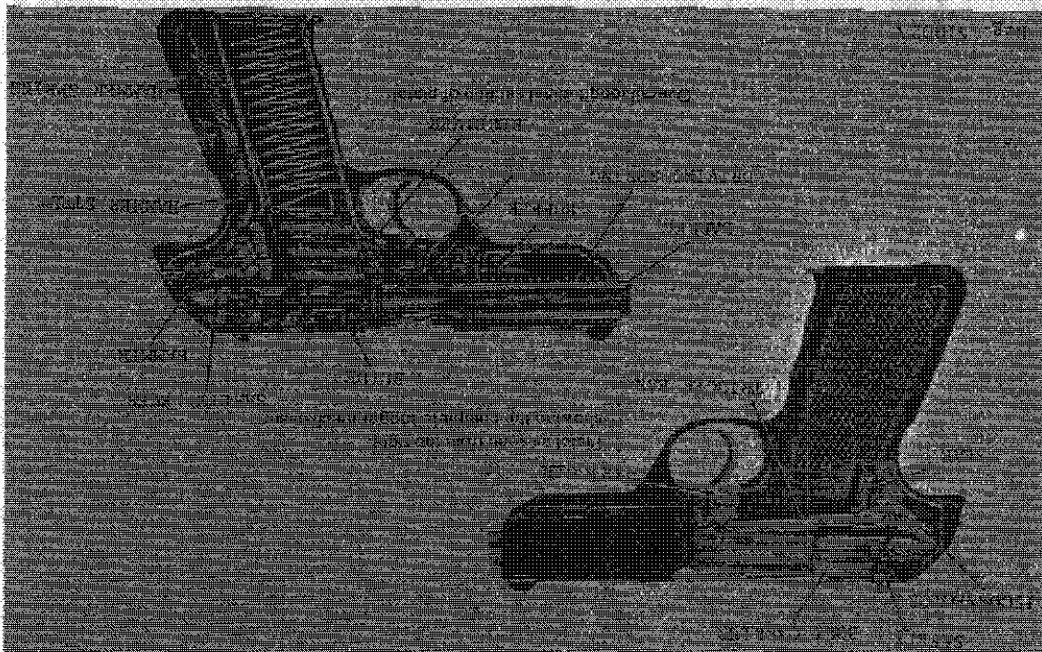

Figure 24. P9 trigger mechanism functioning.
continues and, when the rollers are fully into the bolt, the bolt and slide are then unlocked from the barrel and can move rearward. The bolt lever snaps into the bolt and holds the bolt forward in its unlocked position. The delay occasioned by the rollers' retraction allows gas pressure to drop to a safe level. The rearward thrust of the case has given enough momentum to the slide to drive it fully rearward. This rearward movement compresses the driving spring and rocks the hammer back (fig 24). The extractor holds the fired cartridge case against the bolt until the cartridge case strikes the ejector (fig 22); the case is then expelled out through the ejection port. The rearward movement stops when the inside front of the slide strikes the buffer; the driving spring then drives the slide forward. The feed rib on the bolt drives the top cartridge out of the magazine and into the
b. When the trigger is pressed, the trigger moves the trigger bar forward (fig 24). The trigger bar moves the sear from engagement with the hammer, which, under force of the hammer spring, swings forward and strikes the firing pin, firing the cartridge. As the slide recoils upon firing, the disconnector (fig 24) is forced out of its recess in the slide, and the front end of the disconnector moves upward. This upward movement allows the trigger bar spring to move the rear of the trigger bar up, out of engagement with the sear. The released sear snaps back against the hammer. When the slide counterrecoils, the sear engages the hammer and holds it cocked. Upon completion of the slide's forward movement, the disconnector moves back into its recess in
f. The safety, when applied, causes the safety lever (fig 24) to move and force the disconnecter out of its recess in the slide. The front end of the disconnecter rises and allows the trigger bar to rise out of engagement with the sear. When the safety is rotated to the fire position, the safety lever allows the disconnecter to move into its recess and reestablish the connection between the trigger bar and sear.